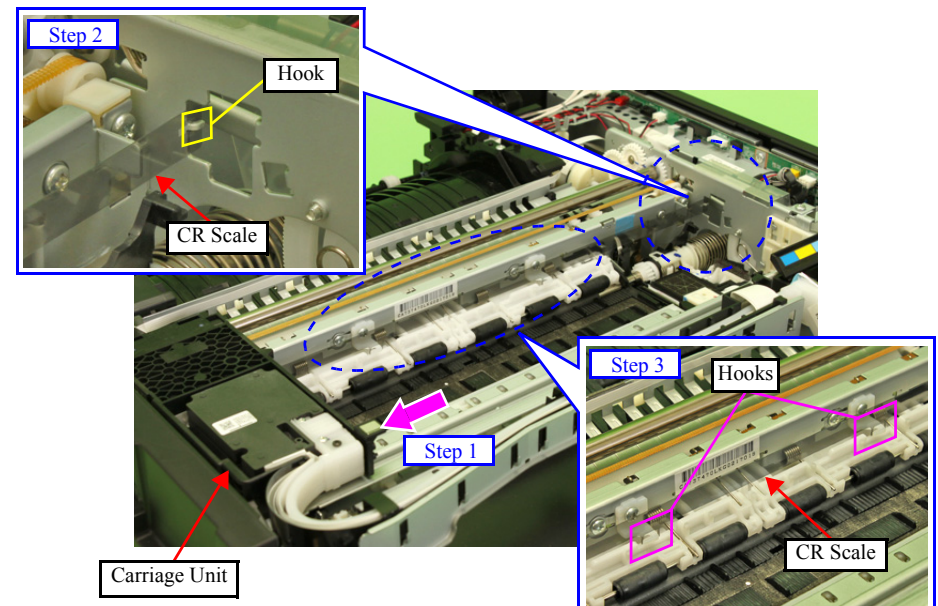

Figure 8-19. Removing the CR Scale (1)
- Be sure to install the CR Scale on to the hooks (x2). (See Fig. 8-19.)